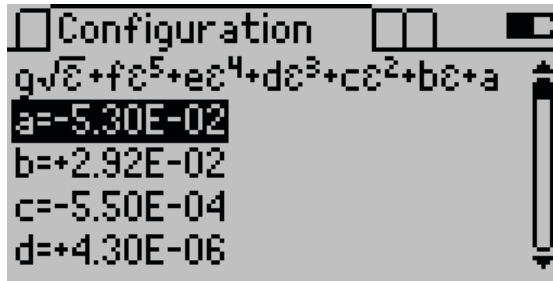

Figure 12 Custom Calibration screen
- The Custom Calibration screen will appear (Figure 12).